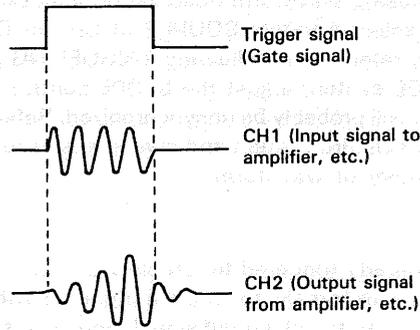

Fig. 7
When the SOURCE selection is in EXT, the input signal at the EXT TRIG INPUT ⑰ jack becomes the trigger. This signal must have a time or frequency relationship to the signal being observed to synchronize the display. External sync is preferred for waveform observation in many applications. For example, Fig. 7 shows that the sweep circuit is driven by the gate signal when the gate signal in the burst signal is applied to the EXT TRIG INPUT jack. Fig. 7 also shows the input/output signals, where the burst signal generated from the signal is applied to the instrument under test. Thus, accurate triggering can be achieved without regard to the input signal fed to the INPUT ⑧ or ⑫ jack so that no further triggering is required even when the input signal is varied.